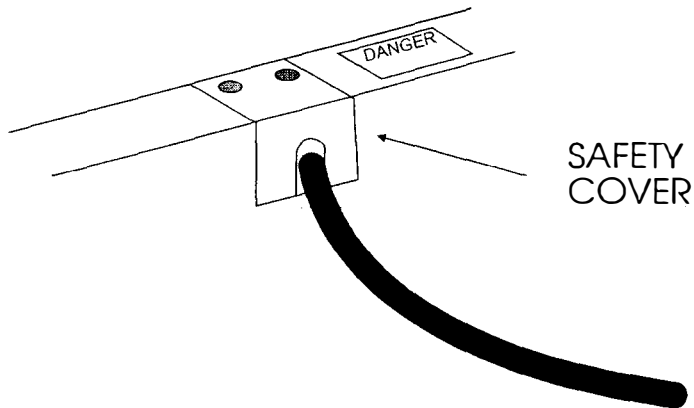

Figure 4-2 External Laser Connection
2. Using a screwdriver, remove the safety cover shown in Figure 4-2 to expose the SMA connector mounted in the cabinet's storage compartment.